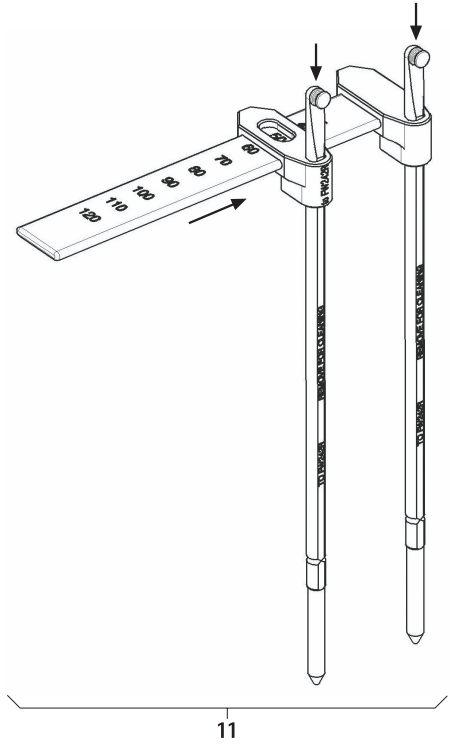

Fig. 16
- ▶ Assemble rod length measuring instrument **11**, see Fig. 16.